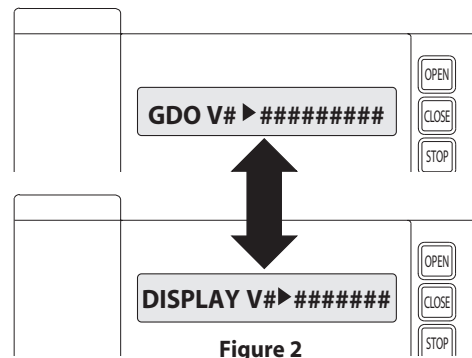

Figure 2
- 2) Press SCROLL  (up or down) until display reads "GDO V# > #####." **Figure 2.** This display will cycle between the version number of the current GDO firmware and the current Display Firmware.